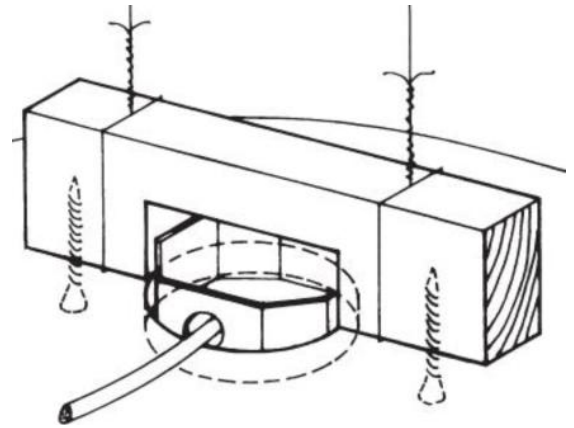

FIGURE 4
- **Fiberglass Domes:** Thread construction wire through metal straps on back of dome. Attach wires tightly to the overhead joist using screws (*figure 4*).
- **Polyurethane Domes:** Use a wood block, into which the suspension wires are secured. Screw from the inside of the dome through the wood block that is positioned on the topside of the dome (*figures 4 & 5*).